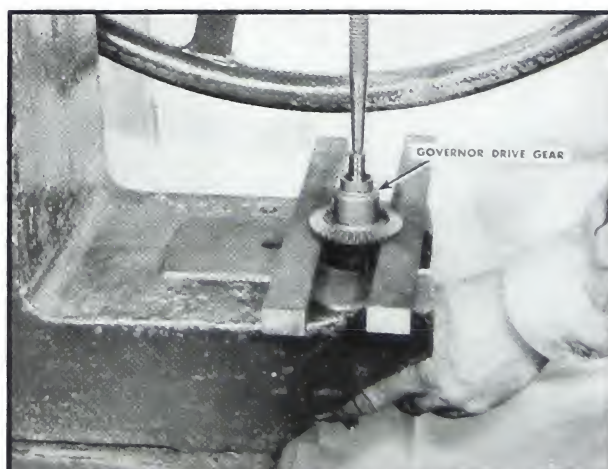

Fig. 5-305. Removing governor-gear pump drive gear
3. Using an arbor press and suitable mandrels, press off the governor-gear pump drive gear. Fig. 5-305.